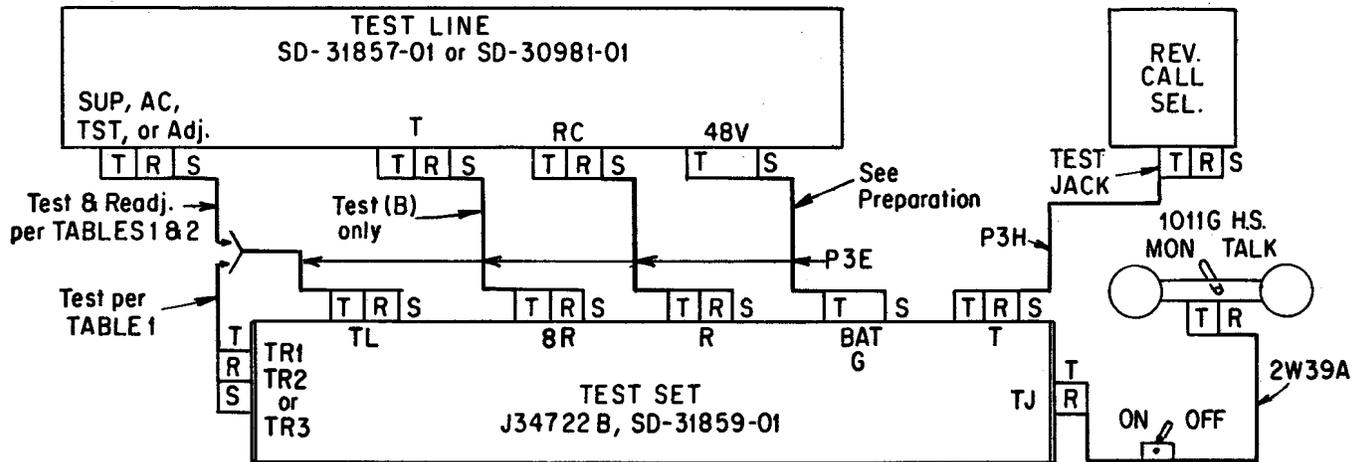

Fig. 1
1.06 When testing reverting call selectors which have a 60- to 75-volt silent interval tripping battery and for which ac requirements are specified, any ring-trip relay which fails on test shall be readjusted to meet the requirements in Section 040-236-701 and the readjust ringing current values provided by the test line. These values are obtained by connecting the TL jack of the test set to the AC jack of the test line as shown in Fig. 1 and Table 1.
1	Connect the dial hand test set and the test line to the test set as shown in Fig. 1 as required by Table 1 or Table 2.